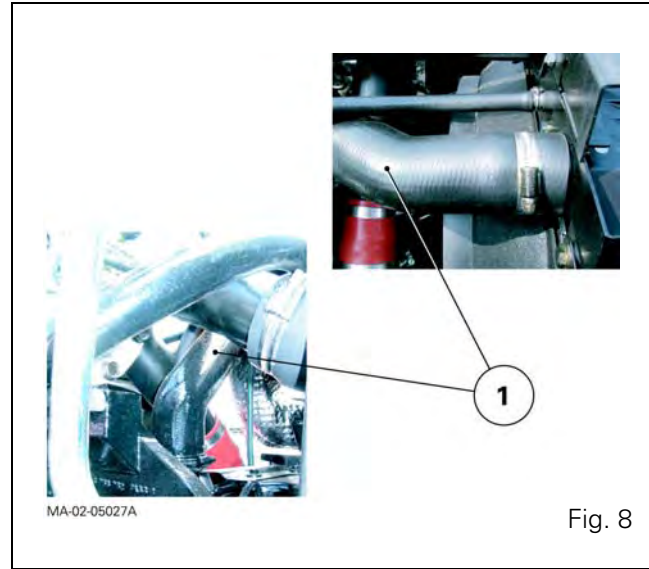

Fig. 8
15. Disconnect the upper radiator hose (1) (Fig. 8).